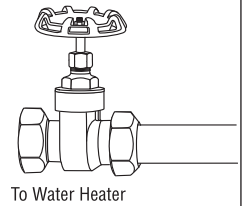

Figure 4
- Using the valve compression fitting, attach the gate valve to the incoming water supply pipe after the system. Firmly tighten compression nut. (Figure 4)